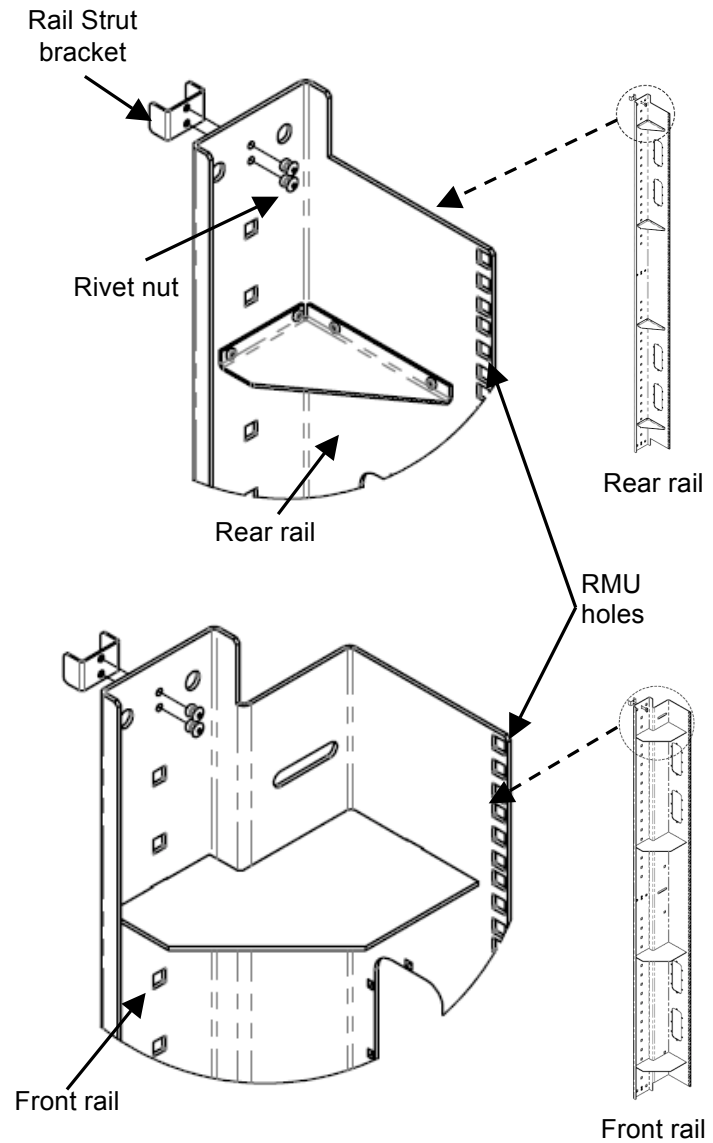

Fig. 4
1. Position Front and Rear rail as shown (Fig. 4 and 5).